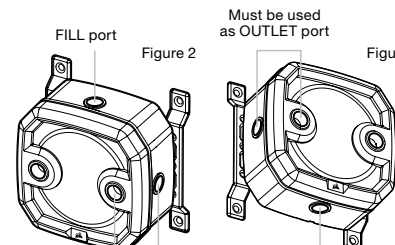

Figure 2
2. It is mandatory to use the front-left port as the OUTLET. The recommended INLET (return) port is marked on the image below. Optionally, you can use the top G1/4" port as an INLET (return) line as well (Figure 2 and 3).
4. Close the remaining three (3) open (unused) ports with the included CORSAIR G1/4" plugs and tighten them using a plug tool. Refrain from using a screwdriver as it may result in damage to the surface of the plugs.